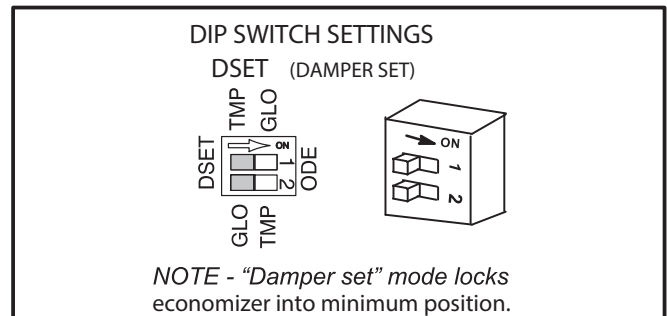

FIGURE 6
- 1- Set economizer DIP switch to "DSET" position as shown in figure 6.